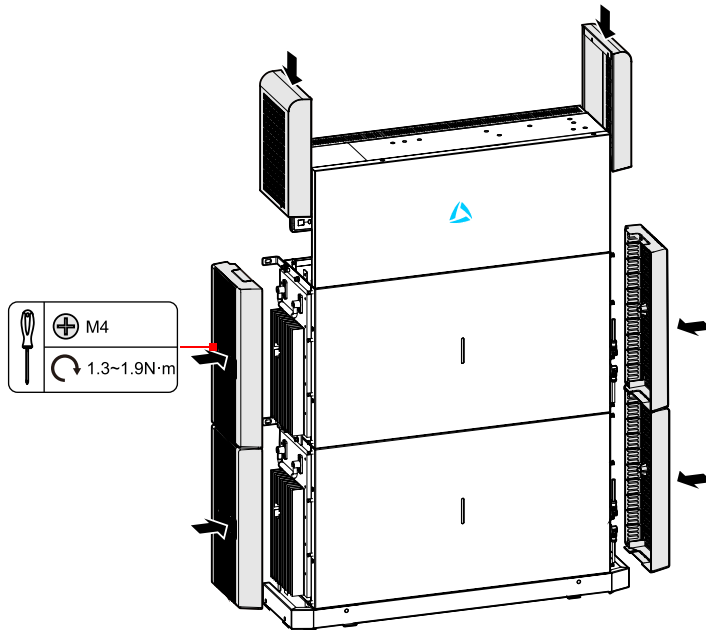

Figure 3-60 Tighten the wiring cover plate
- Step 1 Unscrewing the lock nut, insert the RJ45 port to the communication port after through the magnetic ring and COM wiring cover (as shown in Figure 3-60),